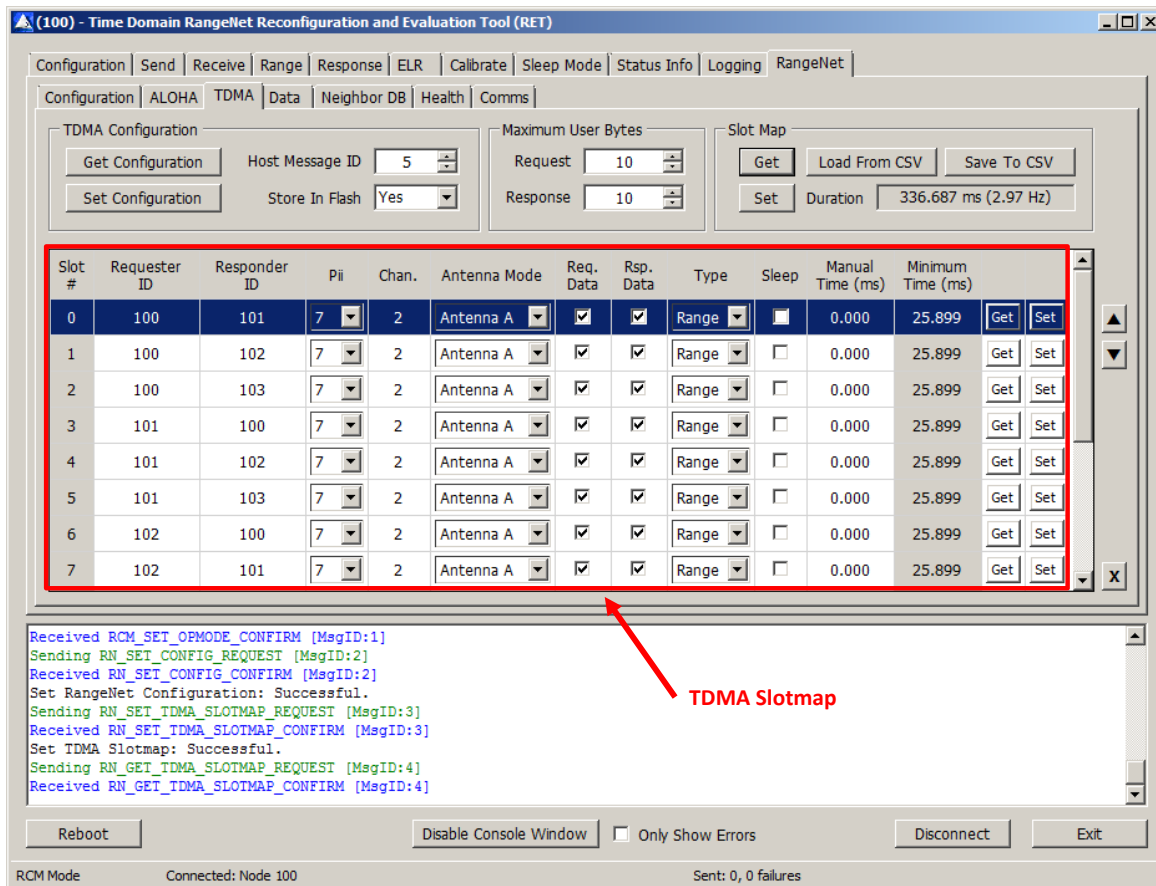

Fig. 5: Representative RangeNet slot map
- If the TDMA protocol is used, then the user can define a slot map that provides each radio with an indication of when and to whom and with what parameters it should communicate. An example slot map is shown below in **Figure 5**. The slot map shown is for a system of 4 nodes (100, 101, 102, and 103) in which 100 and 101 range to each of the other three and 102 ranges to 100 and 101.